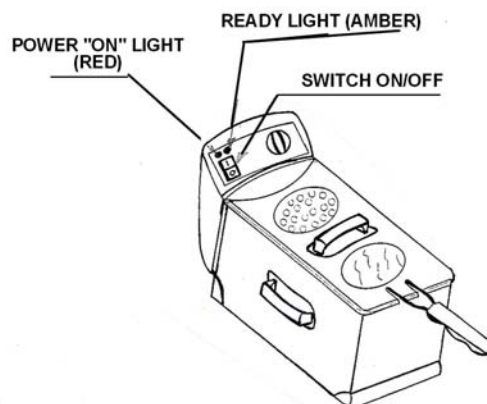

Fig. 4
- The temperature indicator light (# 7) will come on when the temperature is set and the deep fryer is “on” showing that the heating element is in operation. This light goes off when the set temperature is reached. Fig. 4 The temperature light may go on and off several times during frying. This indicates that the temperature is being thermostatically maintained.